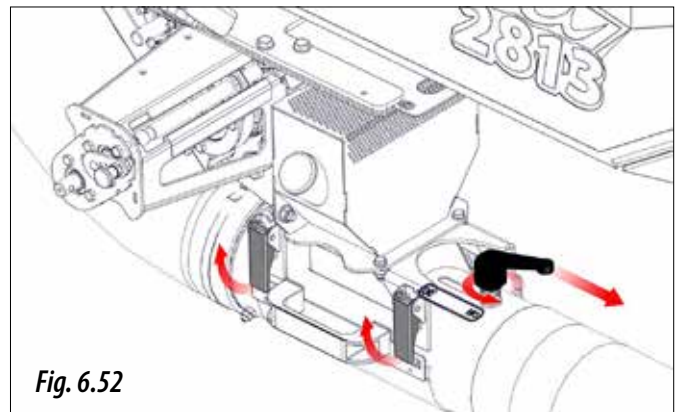

Fig. 6.52
- 3- Open the cover of the Venturi injector using the two quick-release fasteners and move the calibration control to the test position, "NO" (Fig. 6.52).